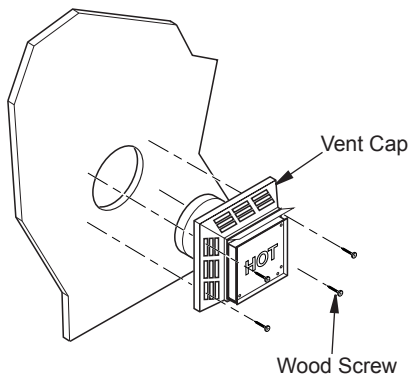

Figure 16 - Installing Horizontal Vent Cap (Noncombustible Exterior)
4. **Noncombustible Exterior Wall:** Apply a bead of non-hardening mastic around the outside edge of the vent cap. Position the vent cap in the center of the hole on the exterior wall with the arrow on the vent cap pointing up. Attach the vent cap with four wood screws provided (see Figure 16). **Note:** Replace the wood screws with appropriate fasteners for stucco, brick, concrete, or other types of siding.